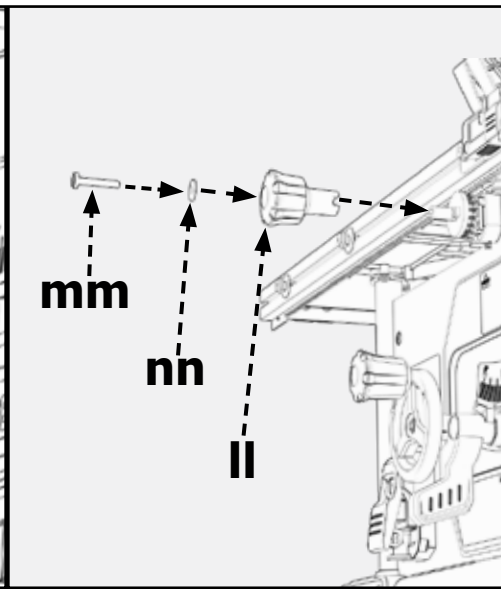

FIGURE 11b
1. Insert and tighten Hex Socket screw (mm) through Flat Washer (nn), into Rack & Pinion knob (ll) as shown in figure 11b.